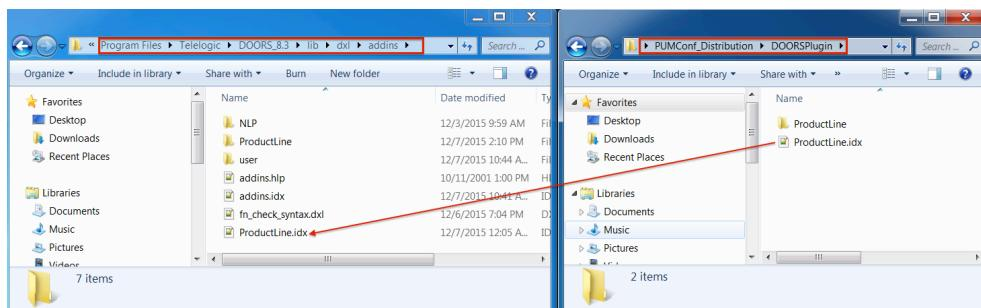

Figure 11: Window to Copy the File ProductLine.idx
2. Copy the file *ProductLine.idx*, located in the folder *DOORSPlugin*, under "%DOORSInstallFolder%\lib\dxl\addons (see Figure 11).